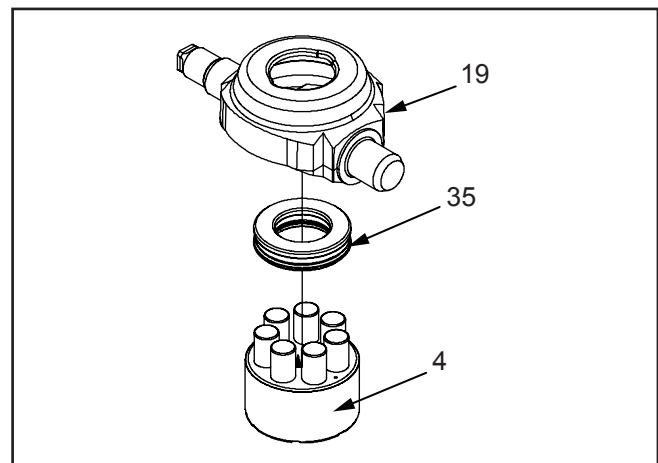

Figure 17.
8. **(See Figure 17)** Disassemble the pump cylinder block (4) from the swashplate (19).
12. (See **Figure 17**) Place the pump block assembly (4), pistons down, on top of the thrust bearing in the swashplate (19).